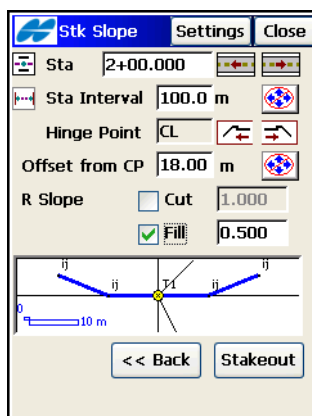

Figure 9-42. Stakeout Slope
- On the **Stk Slope** screen, set the properties of the cross-section at the stakeout station and the interval of the station increment, the hinge point (point of rotation for the Cut/Fill Slope lines) and the values of the Cut/Fill Slope parameters, and the offset from the catch point (the point where the slope crosses the surface of the terrain) (Figure 9-42).